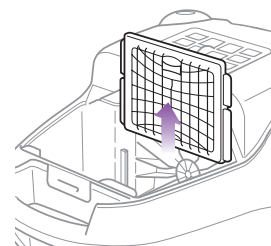

Fig. 16
- 2 Slide the filter tray up to remove. (Fig. 16)